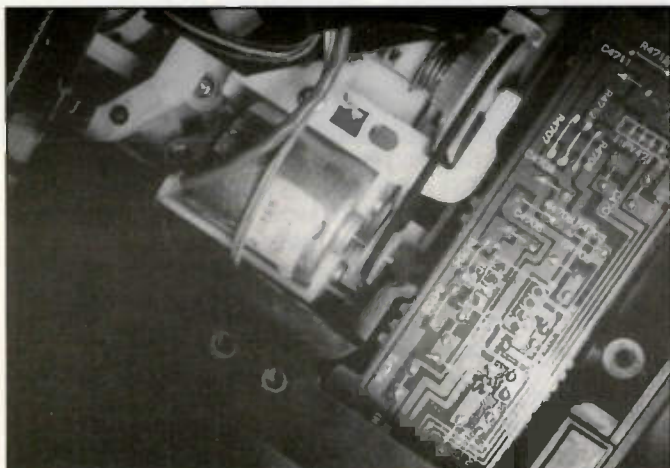

Figure 6. The marks on the belt pulley, and debris under the pulley indicate that this belt is dried out and needs replacement.
- Cassette tray (stage) motor and belt (Figure 6)